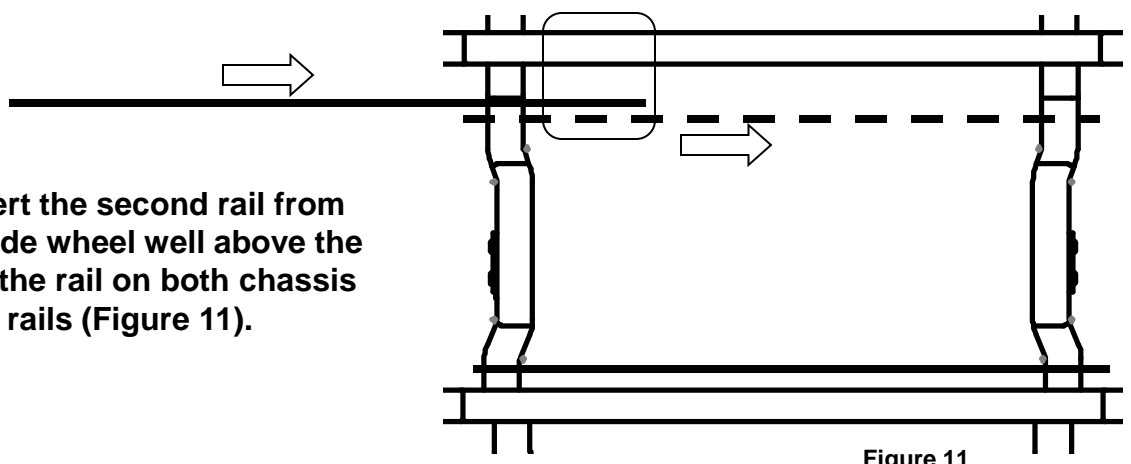

Figure 11
**Step 3 :** Insert the second rail from the drivers side wheel well above the frame. Rest the rail on both chassis frame rails (Figure 11).